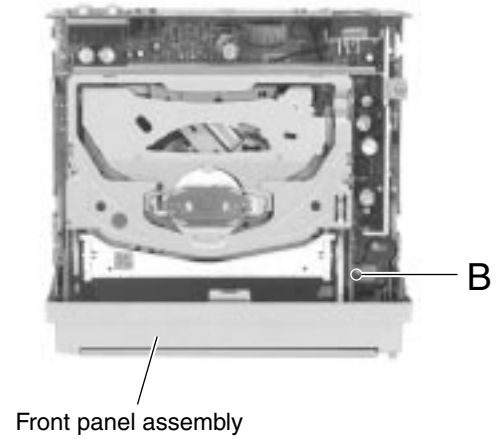

Fig.4
■ Removing the front panel assembly (See Fig.4 to 6)